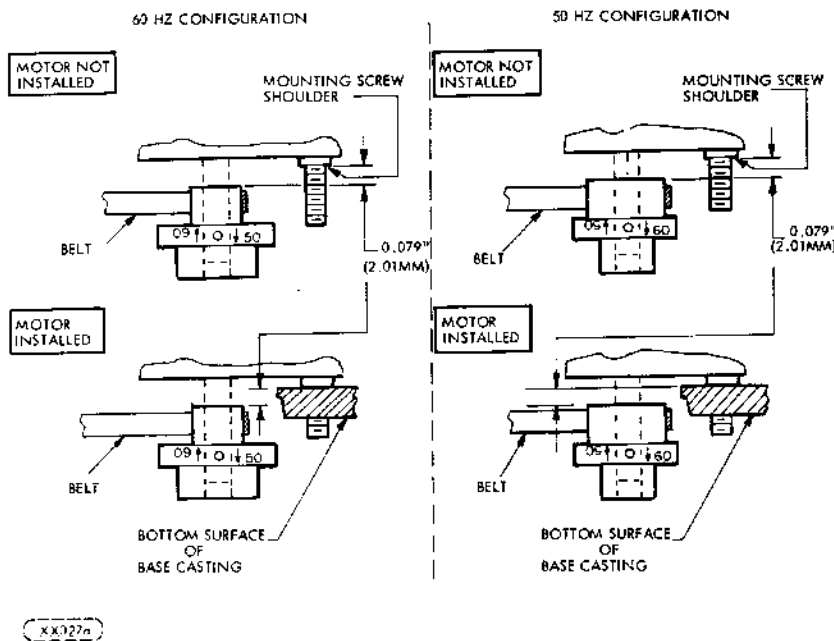

FIGURE 6-15. DRIVE PULLEY REVERSAL
- Position pulley allowing 0.079 in. (2.01 mm) \pm 0.010 in. (0.254 mm) between shoulder of motor mounting screws and pulley (Figure 6-15).